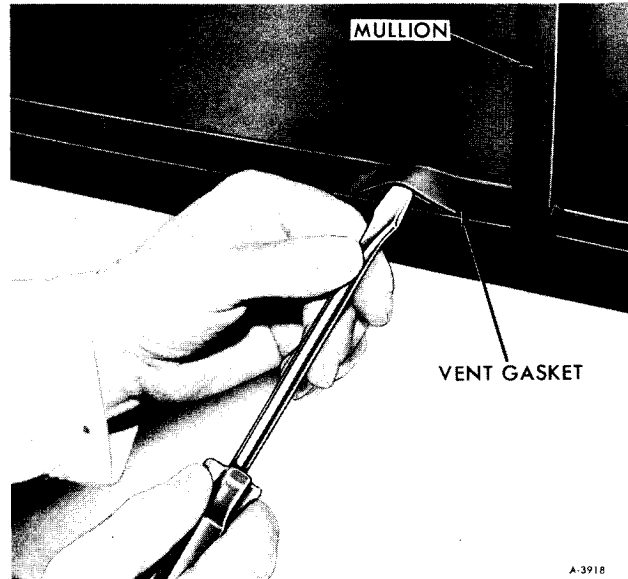

FIGURE 6
1. Use a screwdriver to unseat the vent gasket as shown in Figure 6. Pull the gasket back about six inches.